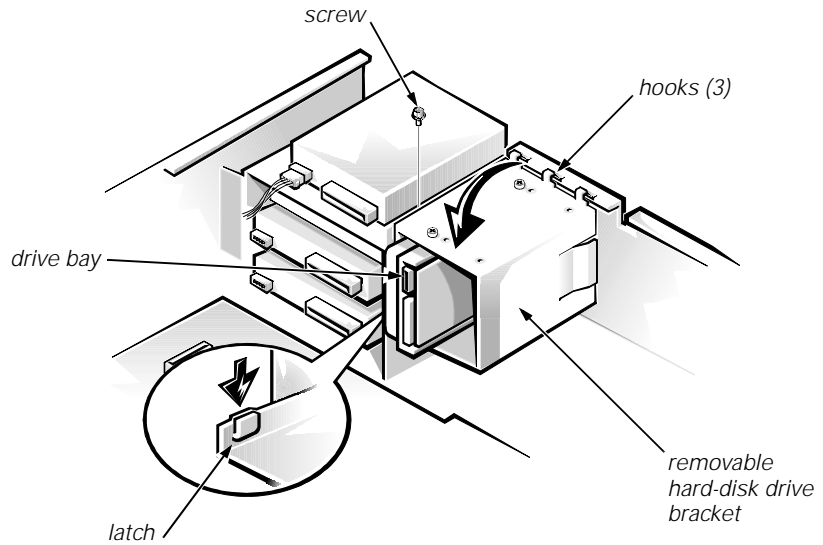

Figure 10-11. Inserting the Hard-Disk Drive Bracket Into the Chassis
6. Reinstall the hard-disk drive bracket into the chassis (see Figure 10-11).